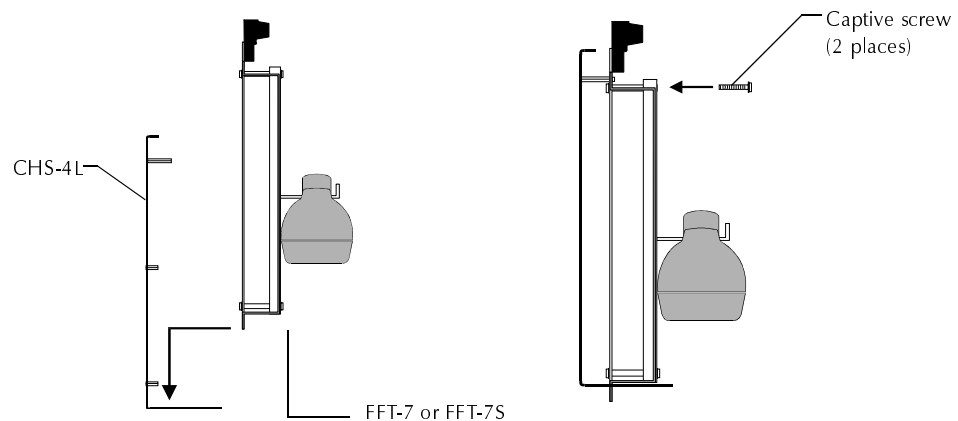

Figure 4-6 Mounting the FFT-7/FFT-7S to a CHS-4L
2. Angle the bottom of the FFT-7/FFT-7S module into the bottom slot of the CHS-4L chassis and secure the module as shown in Figure 4-6: